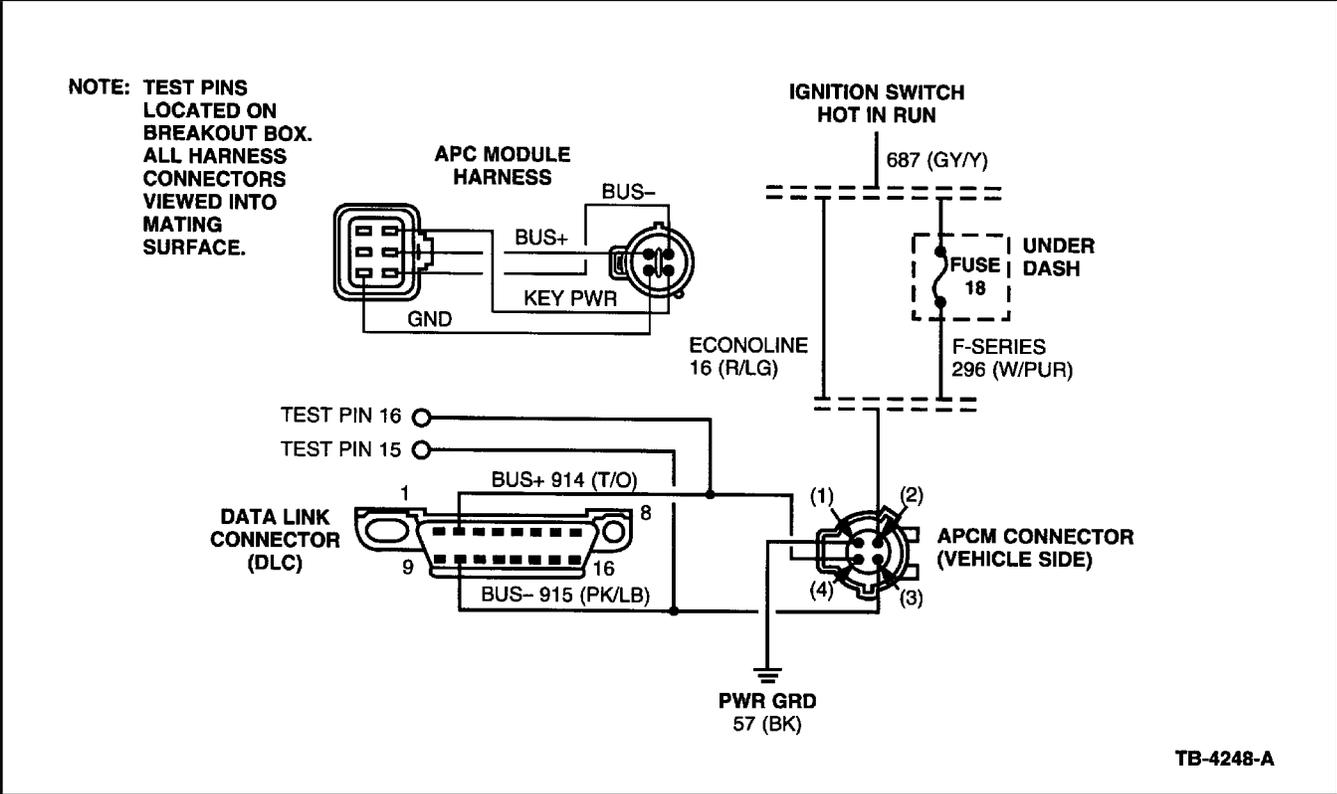

Figure 2 - Article 95-15-13
- b. If no codes are present (key on, engine off), disconnect APCM and measure voltage on Pin 2 of the APCM connector. If voltage is not present, replace fuse or repair open in Circuit 296 (W/PUR), F-Series, or Circuit 16 (R/LG), Econoline (Figure 2).
- c. Measure resistance on Circuit 57 (BK) between APCM connector Pin 1 to ground. If resistance is greater than 5.0 ohms, repair open in ground circuit (Figure 2).